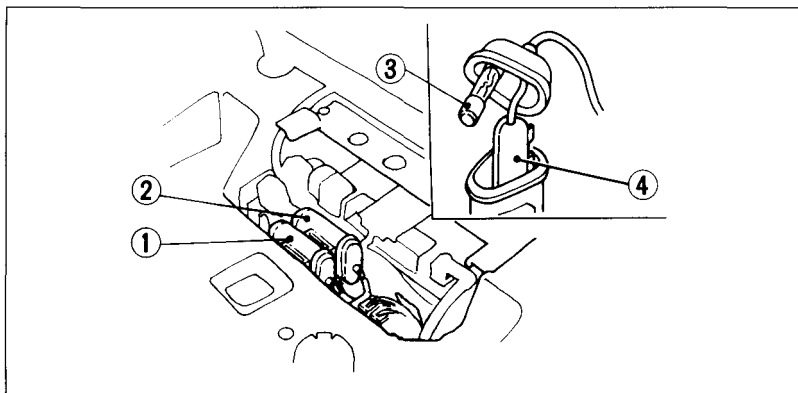

Fig. 4-21
As illustrated in Fig. 4-21, the main fuse (1), the sub fuse (2) and the spare fuse (3) are located in the battery compartment. Both the main fuse and the sub fuse are 15 A. (The main fuse is connected to the red wire.)